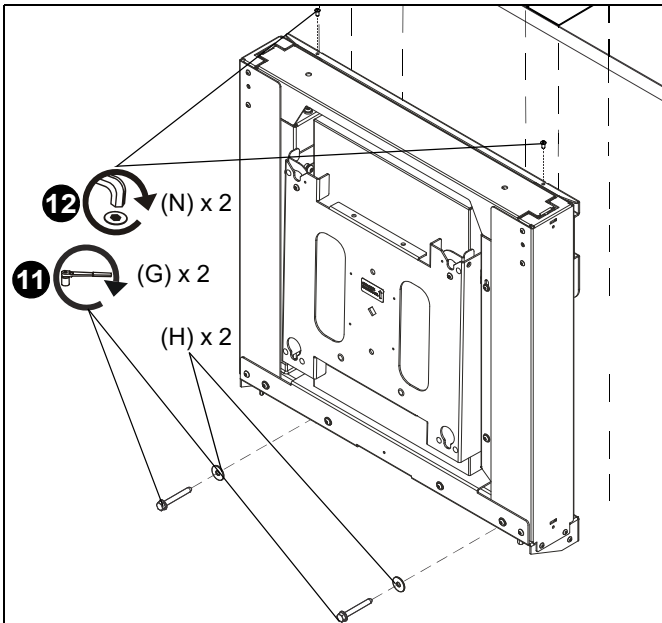

Figure 5
11. Install two 5/16 x 2 1/2" hex head cap screws (G) through two 5/16" washers (H), lower mounting holes on mount and into drilled holes on wall. (See Figure 5)
12. Use two 1/4-20 x 1/2" button head cap screws (N) and 1/8" hex key (R) to secure mount to wall. (See Figure 5)